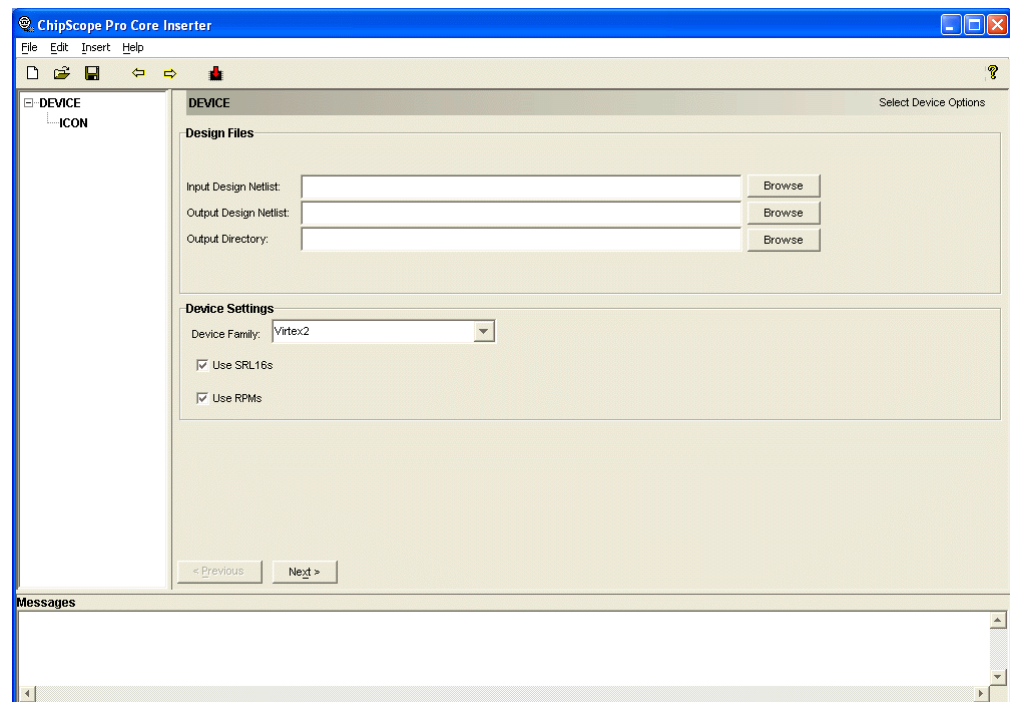

Figure 3-5: Blank Core Inserter Project
When the ChipScope Core Inserter is first opened, all the relevant fields are completely blank. Using the command **File** → **New** also results in this condition (Figure 3-5).
1. Specify the Input Design Netlist (Figure 3-5, page 3-6).